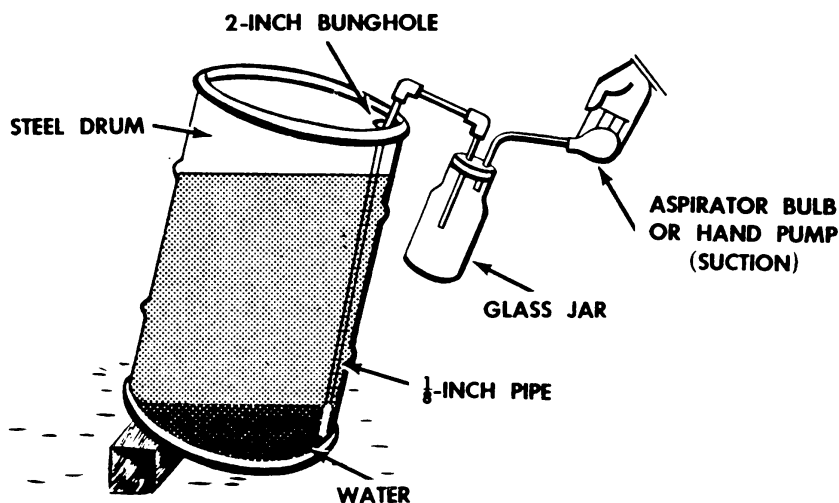

Fig. 108. Aspirator method of removing water from motor fuel or gasoline.
c. Keeping moisture from damaging fuel. (1) Dryness of thickener. Dry thickener is extremely hygroscopic; that is, it absorbs moisture from the atmosphere very rapidly. For this reason, thickener is shipped in hermetically sealed tin cans. Gasoline, or fuel oil and gasoline, should be measured out before thickener container is opened. Powder should be poured immediately into the liquid. Discard and destroy unused powder.
(2) Dryness of containers. Containers used in mixing and handling fuel should be dry.
(3) Removing water from gasoline. The greatest factor contributing to poor fuel mixture is the presence of water in gasoline. The smallest quantity of water in gasoline decreases the consistency of the thickened fuel and causes a variance in fuels from batch to batch. Water has a tendency to enter containers of gasoline even though they are tightly sealed. Always assume that containers of gasoline also contain water. Decant all containers before using the gasoline for fuel mixing by allowing container to stand quietly for 10 minutes and then carefully pouring off gasoline from top, or remove water by the aspirator method illustrated in figure 108.
d. Effect of temperature on mixing. (1) Below 70° F. It is helpful at this temperature to prepare thickened fuel indoors, in a heated room. Temperature of ingredients should be 70° F. or higher. Gasoline may be heated by a steam or hot water coil.